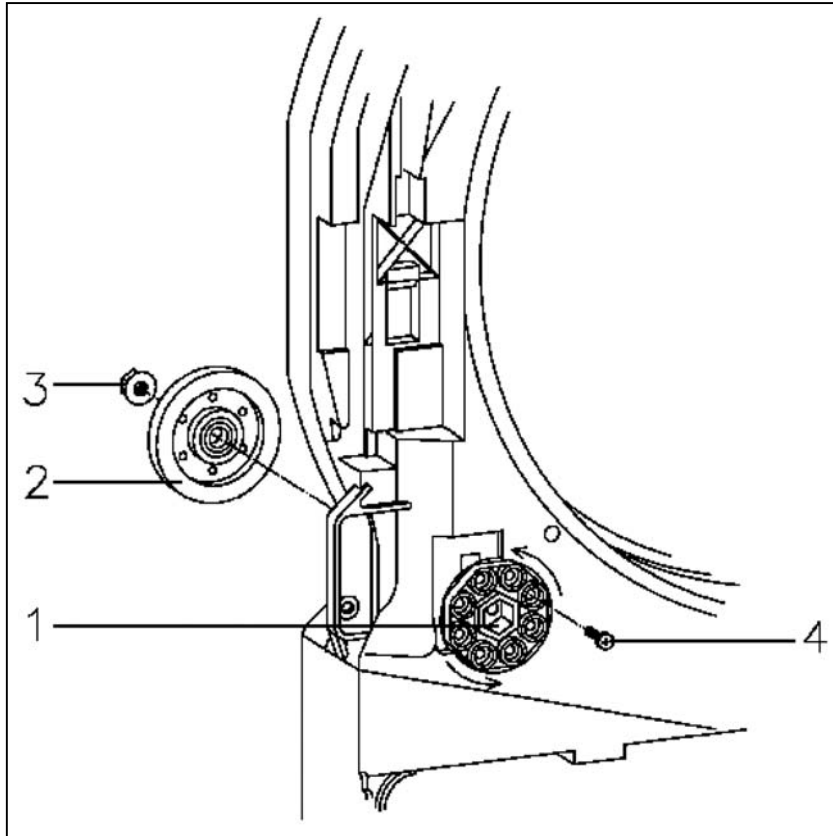

Figure 050-3: Drum bearing
2. Refer to Figure 050-3.
3. Remove the Screws (4)
4. Turn the Eccentric Disc (1) back and forth, while checking the gap between the drum neck and the fill ring.
5. When the gap is the same all around the drum neck, tighten the screws (4).